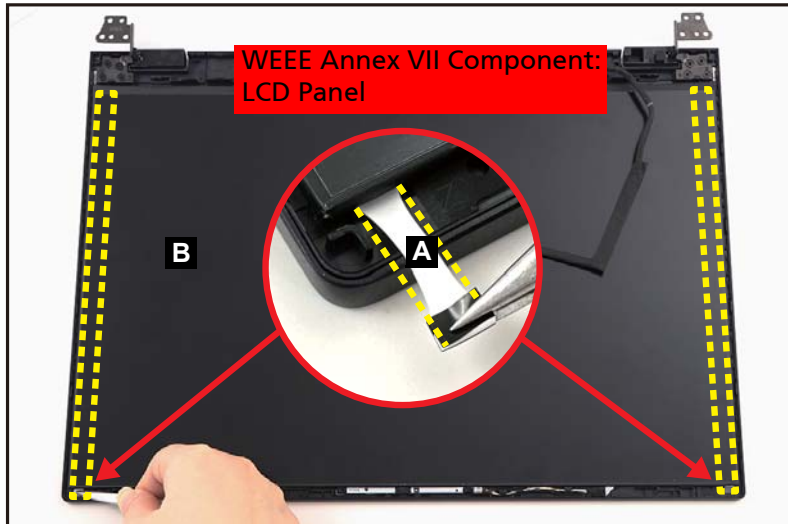

Figure 1-45. LCD Panel Removal
1. Unroute and detach the eDP cable from the cable guides on LCD cover as shown in Figure 1-45.
2. Pry slightly to access the double-sided mounting tape (A) underneath the LCD panel (B). Then pull to detach the double-sided mounting tape. Repeat the same procedure to remove the double-sided mounting tape on another side of the LCD panel (Figure 1-45).